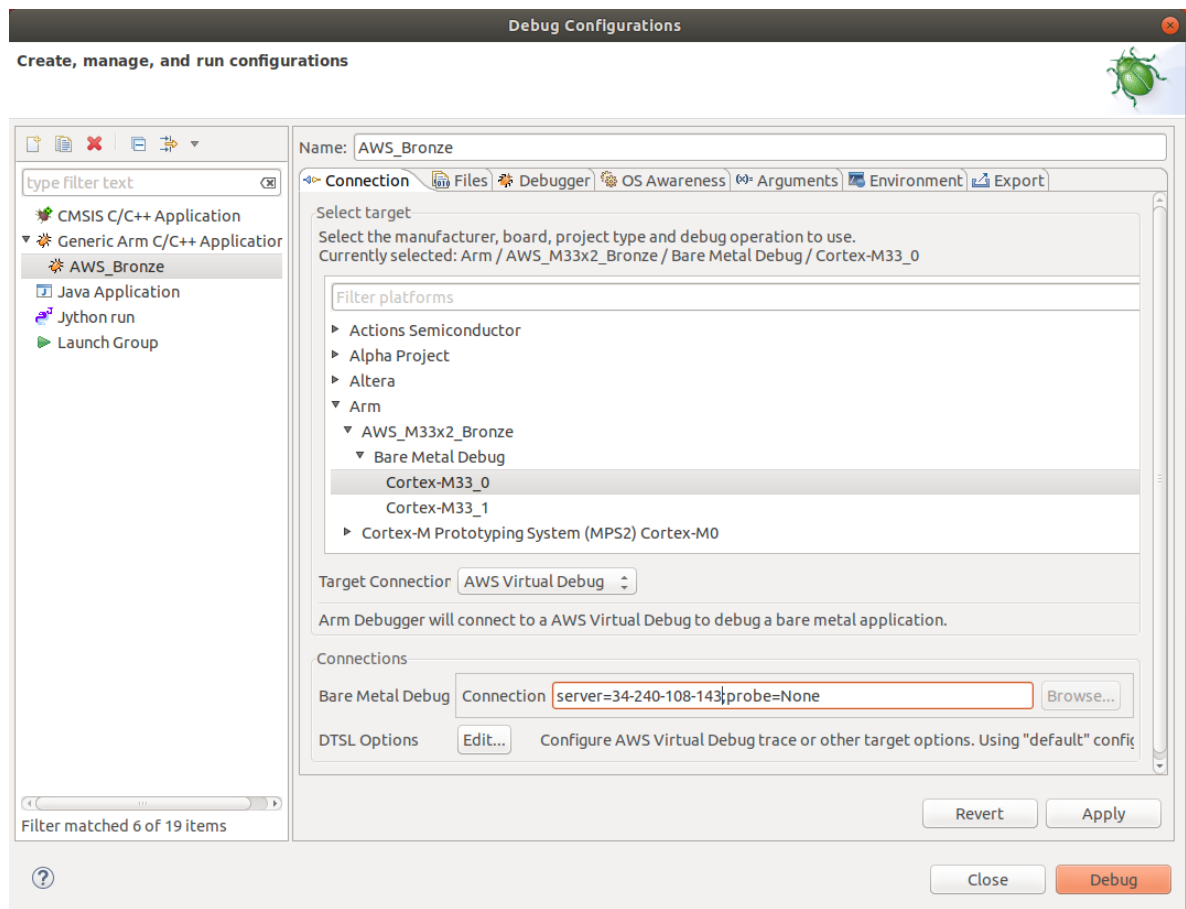

Figure 10 Creating a new debug configuration
- Click "Debug" as shown in the Figure 10 Creating a new debug configuration